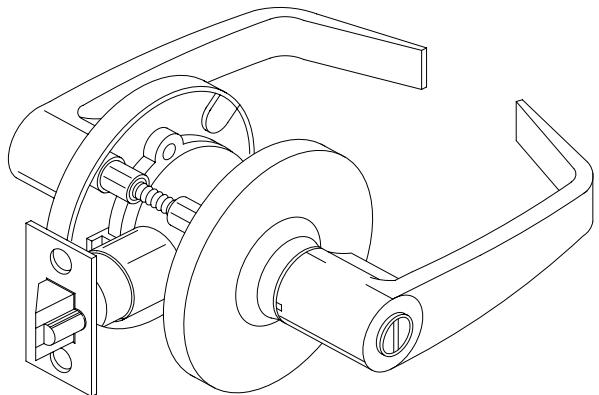

FIGURE 9d
- 3b. The Thru-bolted Cylindrical Lock, Figure 9d, requires two additional holes in addition to the preparation for the bored lock to prevent twisting of the lock body.